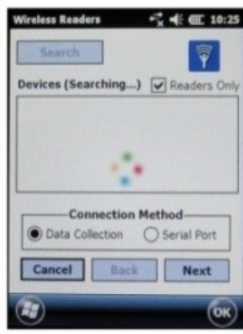

Figure 15. Device search screen
9. The computer will start discovering readers (Figure 15).